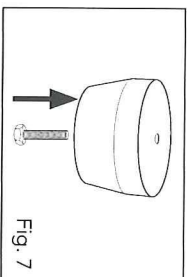

Fig. 7
1. Insert one of the supporting foot bolts (23) up through a supporting foot (4) (Fig. 7).